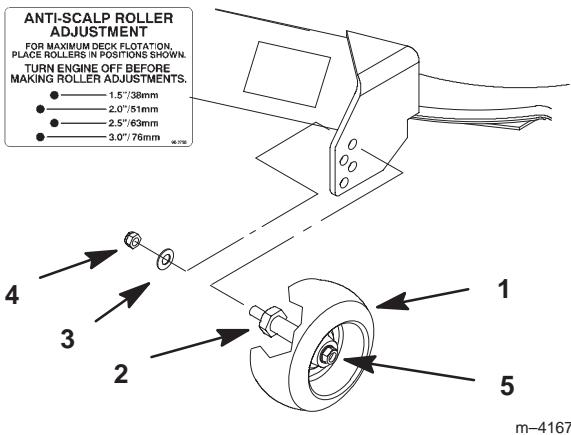

Figure 12
2. After adjusting height-of-cut remove nut and washer while holding stud with wrench (Fig. 12).
**Note:** Do not remove the wheel nut and washer (Fig. 12).
3. Select hole so gage wheel is positioned to the nearest corresponding height-of-cut desired (Fig. 12).
4. Reinstall the stud nut and washer (Fig. 12).